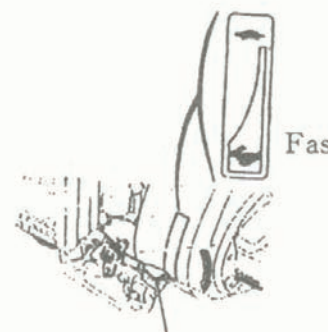

Fig. 10
6. Set the throttle lever in proper position to ensure the engine runs at required velocity (Fig. 10).